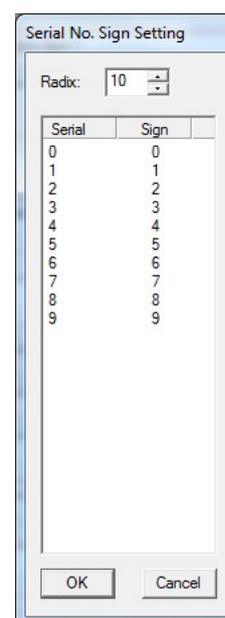

Fig. 8.03
- Base** The default setting is Decimal system. Users can select another method. If choosing "Special Carry," a setting dialog will pop up for users to modify, see Fig.8.03.